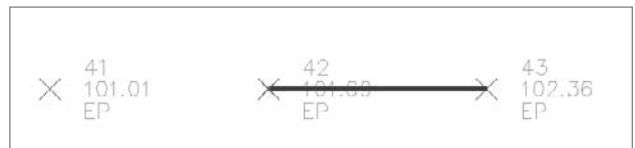

Figure 4.21
8. At the Enter Point Identifier: prompt, type **42** and then press ↵. A preview of the EP3 figure is drawn between points 43 and 42, as shown in Figure 4.21.